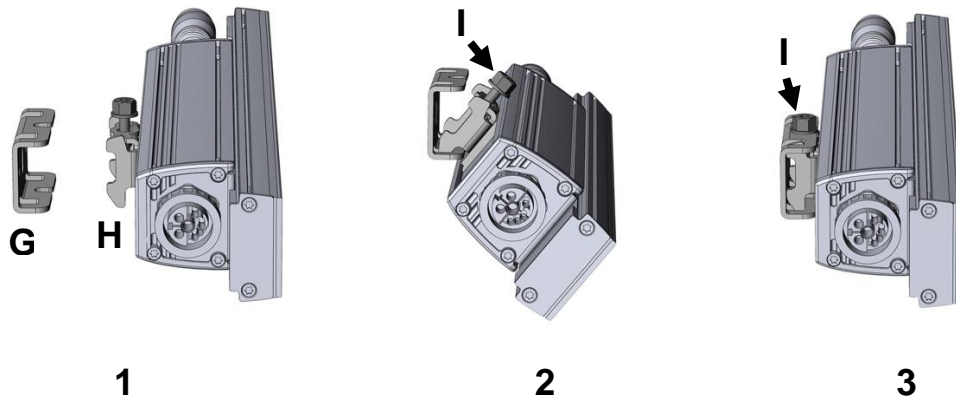

Figure 3. Quick-mount bracket installation
1. Use Figure 3. as a guide. Fasten each fixture bracket **H** securely to a sliding plate **A** in the back of the fixture using the two screws supplied with the bracket.